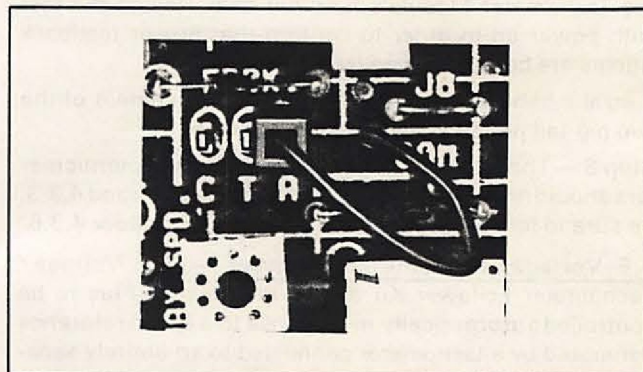

Figure 5.10 — Feedback Connection on Regulator Module
**Step 6** — The Feedback Jumper on the Regulator Module must be connected for tachometer feedback. (Refer to Figure 5.10.) Place the Regulator Module's fixed black jumper on the pin marked T.